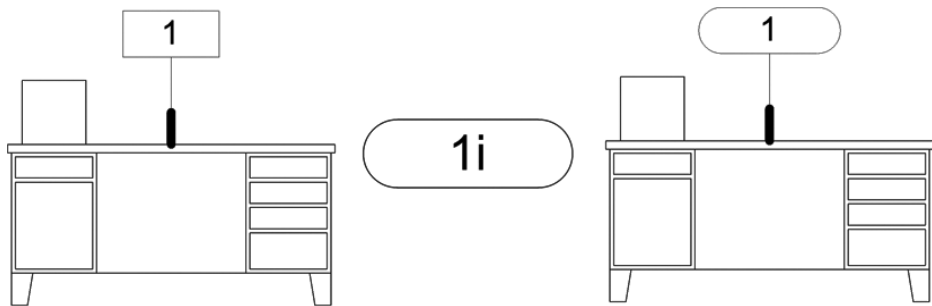

FIGURE 6.16 Editing the Furniture tag
Let's begin by modifying a 2D element already placed in the sample project. Suppose that according to your firm's graphic standards, the Furniture tag should have rounded sides. Go to the South elevation to see the Furniture tag (Figure 6.16). The chair you placed in the previous exercise has been temporarily hidden in the image for clarity.
2. In the Family Editor, click the Create tab, and activate the Line tool. Choose one of the arc draw shapes and add lines to both sides of the tag. Delete the vertical lines, as shown in the middle image in Figure 6.16. Then click Load Into Project from the ribbon to reload the tag into the project and overwrite the existing tag.
It's really that easy. Every tag throughout the entire project is updated (see the right image in Figure 6.16).